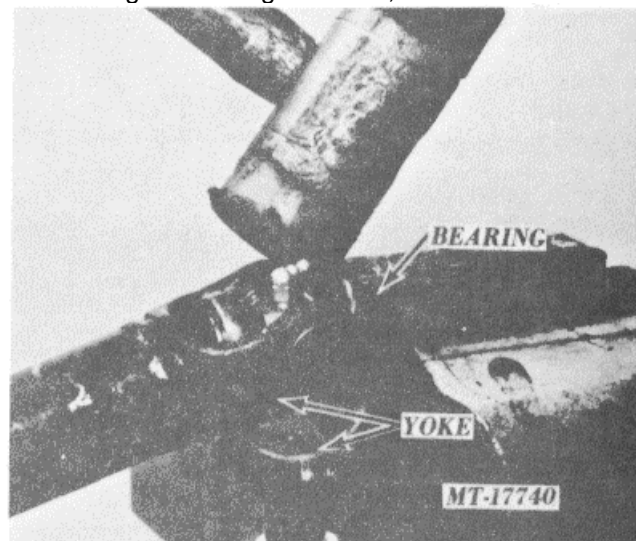

Fig. 10 Bearing Removal (Bearing in Vise Use Copper Jaw Covers on Vise)
3. If the bearing does not come completely out, clamp bearing in vise. Use copper jaw covers on vise. Strike the yoke with a soft hammer and drive the yoke away from the bearing as shown in Fig. 10.